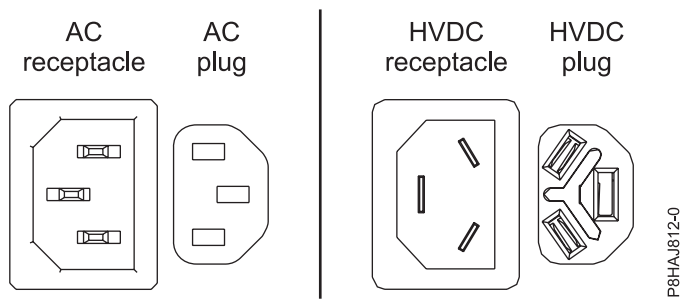
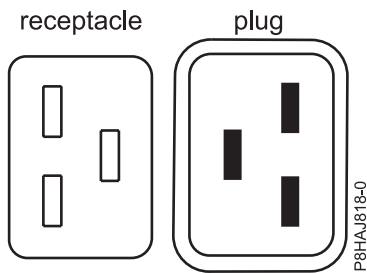
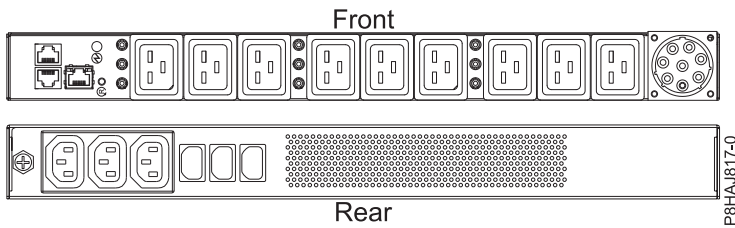

Figure 46. AC and HVDC connectors
Figure 47. Connectors for the 8408-44E system
Figure 48. PDU for the 8408-44E system
Figure 46 shows the supported alternate current (AC) and high voltage direct current (HVDC) connectors. Figure 47 and Figure 48 show the supported connectors and power distribution unit (PDU) for 8408-44E.